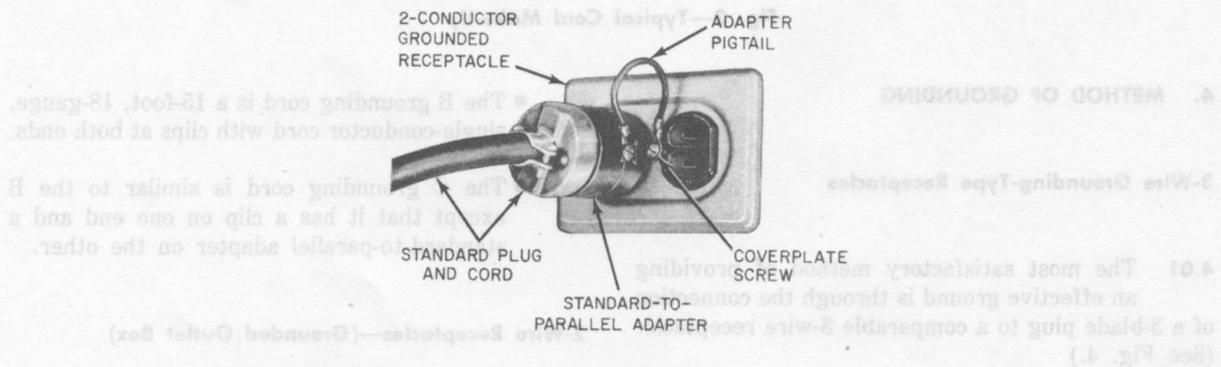

Fig. 5—Grounded 2-Conductor Receptacle
4.04 Where it is known that a building is wired with metallic conduit, armored cable, or nonmetallic sheath cable with a grounding conductor, the outlet boxes may be grounded. Under these conditions and only after it has been found that the boxes are grounded, the grounding pigtail terminal on the adapter or plug may be fastened under the coverplate screw of the receptacle. (See Fig. 5.)
4.05 In grounding to a 2-conductor receptacle (Fig. 5), connect pigtail to coverplate screw before inserting adapter into the receptacle.